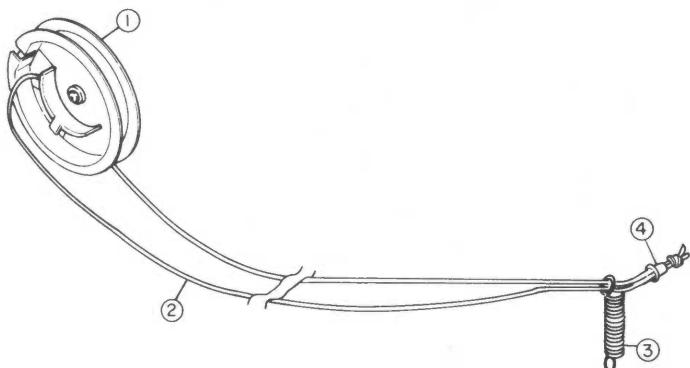

Fig. 5-2-1
(1) Pass the dial string ② through the dial pulley ①. Then place both ends of the dial string together and pass them through the dial spring ③ and eyelet ④. Finally tie the two ends together, noting that the spring should be directed as shown in Fig. 5-2-1.